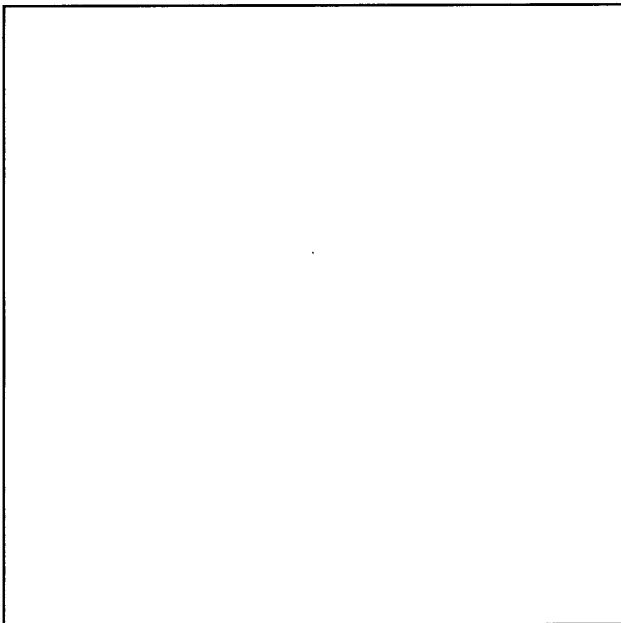

Figure 1
4. **If the tractor is equipped with a mid-mount PTO attachment**, remove the factory fenders, under-seat shields, and all operator platform sheet metal parts in order to provide access to the front mounts. A three-piece front mounting bracket is used instead of the large single under-belly bracket. The bottom mounting holes are similar except that the left and right cab mounting brackets bolt to the centre piece to complete the bracket. Take the centre bracket (10) and position it against the four-hole bolt pattern located at the bottom of the engine housing. Loosely, bolt the bracket to the housing using the 12x35x1.25mm hex bolts and 1/2" lockwashers.
5. **If the tractor is equipped with a mid-mount PTO attachment**, take the left outer front bracket part (11) and line it up with the centre bracket and line the top mounting hole up with the bolt-hole in the operator platform area and bolt into place. Repeat for right side.
7. Take the 27"x37 1/2" piece of upholstery (1) and position it against the seat plate, between the fenders, with the bottom edge against the operator foot platform. Cut all necessary openings for controls and seat bolts. Glue the upholstery to the seat plate. Reattach the seat and seat tracks.
8. (see Figure 1)
4. Locate the pressure port on the top, right side of the thermostat housing. Remove the sensor and attach the 12x1.5mm sensor adaptor (1) to the port. Then, attach the sensor to the end of the sensor adaptor. Screw the 1/4"NPT-3/8"barb 180 degree fitting (2) into the middle of the sensor adaptor. REMEMBER to use a water sealant material around the threads of the fitting. (see Figure 1)